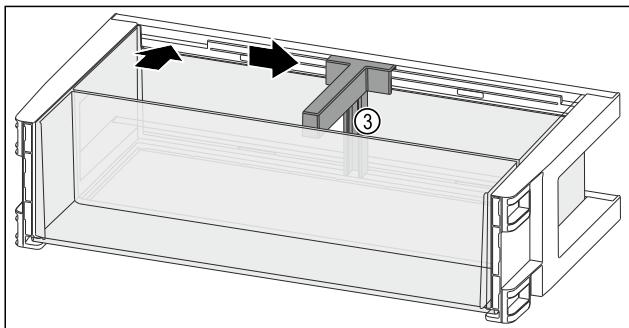

Fig. 127
- ▶ Insert the bottle holder Fig. 127 (3) in the recess.
- ▶ Push the bottle holder Fig. 127 (3) to the desired position to the side.